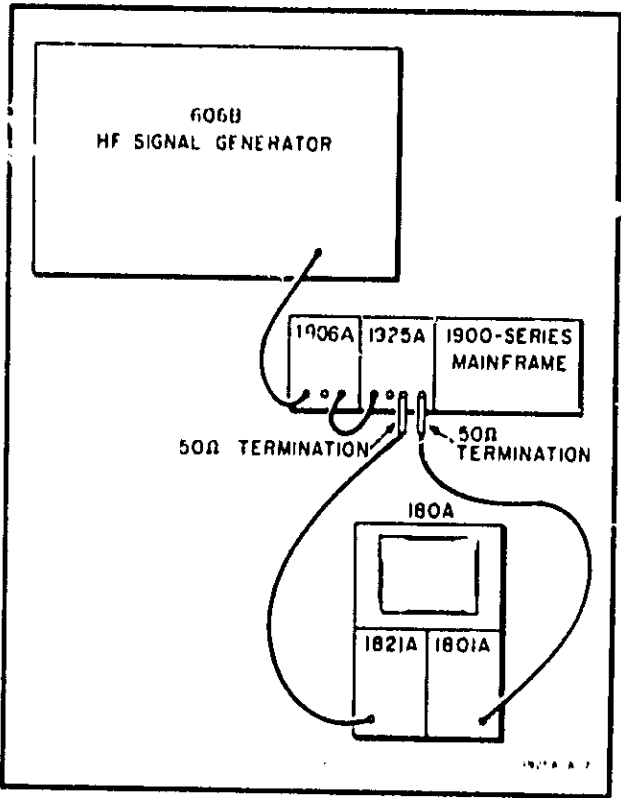

Figure 5-6. Frequency Check Test Setup
a. Connect the equipment and accessories as shown in Figure 5-6.